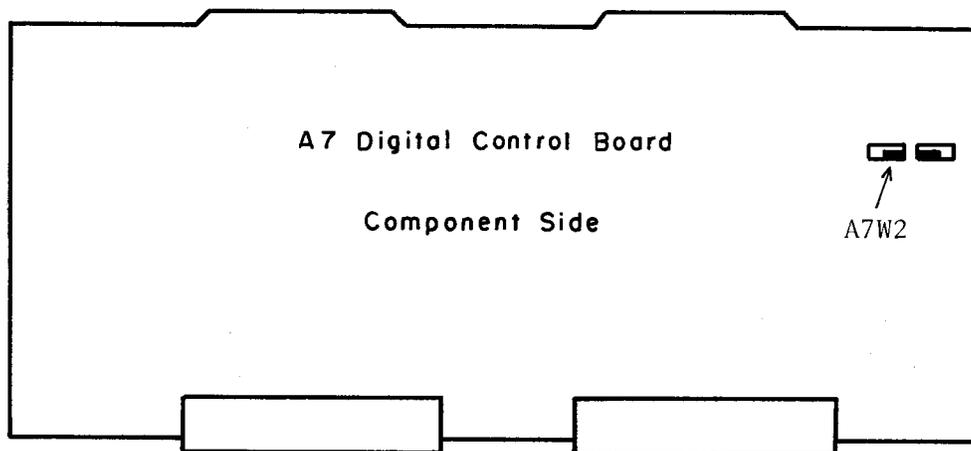

Figure 1-10. EEPROM Write Enable
2. Set the 4278A's EEPROM write protect jumper (**A7W2**), to the right hand side as shown in Figure 1-10.